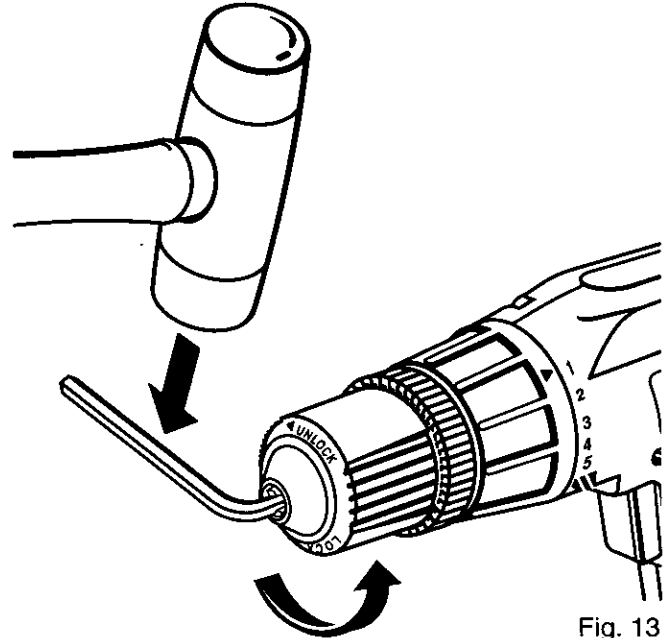

Fig. 13
- Insert hex key wrench in chuck and tighten chuck jaws securely. Tap sharply with a mallet in a counterclockwise direction. This will loosen chuck on the spindle. It can now be unscrewed by hand. See Figure 13.